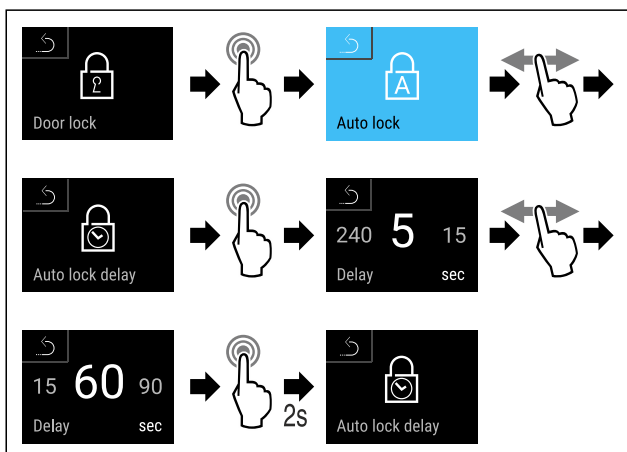

Fig. 82 The following values can be set: 5, 15, 60, 90, 120, 180 and 240 seconds
- ▶ Complete steps (see Fig. 82).